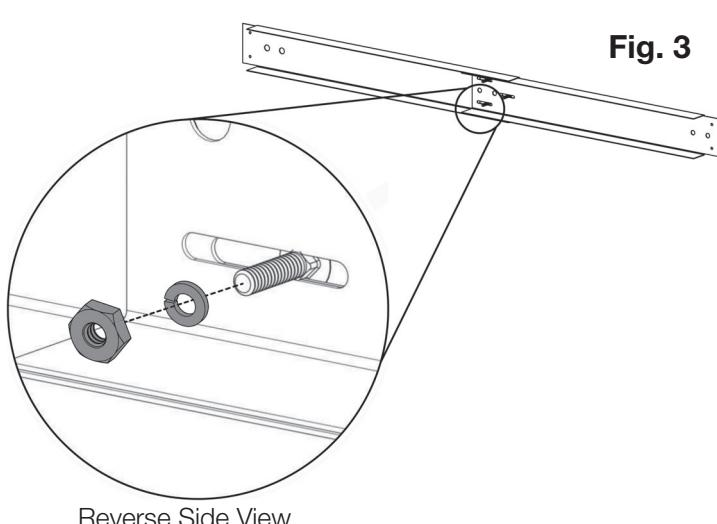

Fig. 3
- Secure the 3 nuts (Type 1) and the 3 washers (Type 3) to the back of the bolts (**Fig. 3**).